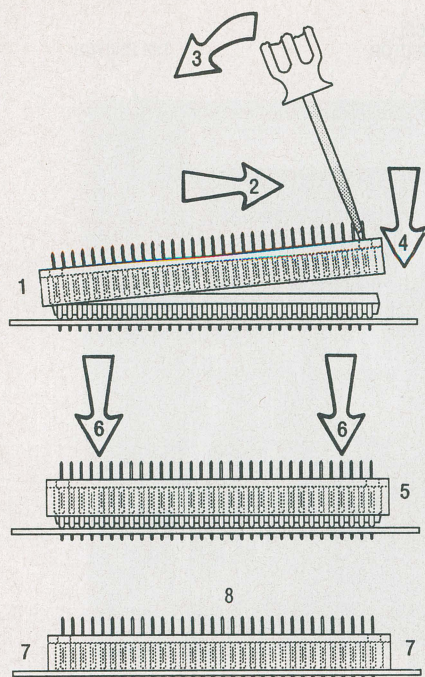

Fig. 2. This drawing shows the step-by-step installation for the Killy clip. You'll need to follow these steps if your motherboard has a plastic CPU.
Let's start with the procedure for the black-plastic CPU using the Killy clip (illustrated in Fig 2), which should be somewhere among the hardware. Place the clip over the CPU chip with the flange on one end of the clip centered on the body of the CPU chip (1). **Do not** hook the flange under the CPU chip at this point. Holding the Killy clip firmly, push the clip towards the other end of the CPU (2). The end of the clip resting on the CPU will bend slightly outward. While maintaining pressure on the clip, insert the flat-blade screw-